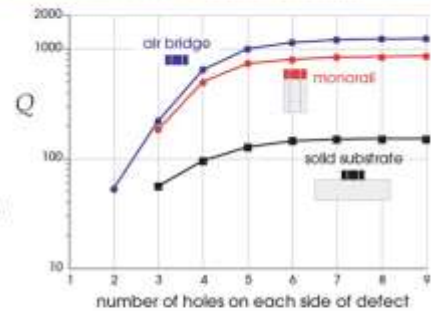

Figure 8: Total Q of the point-defect state from Figure 6, as a function of the number N of holes on either side of the defect.
- When a resonance has multiple decay mechanisms, it is beneficial to characterize each mechanism with its own quality factor (Q).
- The net Q of the resonant mode in the air bridge waveguide varies with the number N of holes on either side of the cavity, as depicted in the top (blue) curve of figure 8.